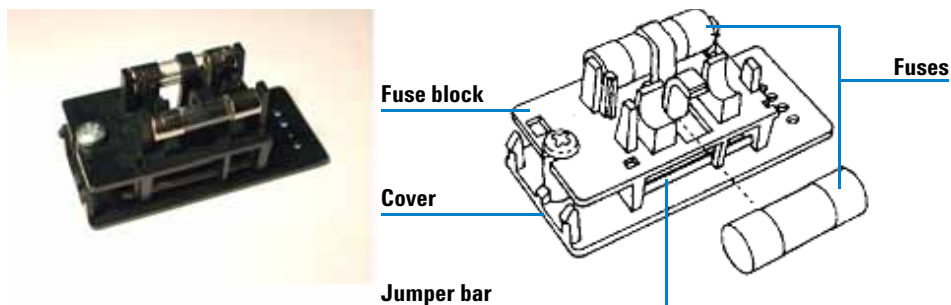

Figure 17 Fuse-block assembly
- 10 Slide the fuse block back into position and tighten the screw. Make sure that the active fuse(s) face(s) out, see Figure 17.